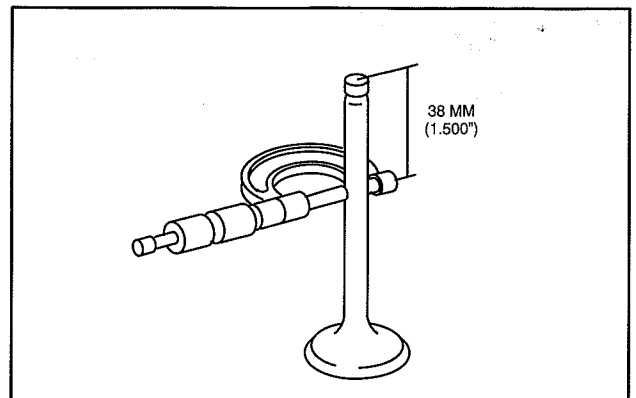

Fig. 16 – Measure Valve Stem Diameter
2. Measure valve stem diameter at specified distance from end of valve, as shown in Fig. 16.